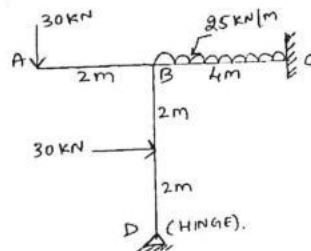

Fig. Q4
- 4 Analyze the portal frame shown in Fig. Q4 by moment distribution method. Draw BMD. (16 Marks)